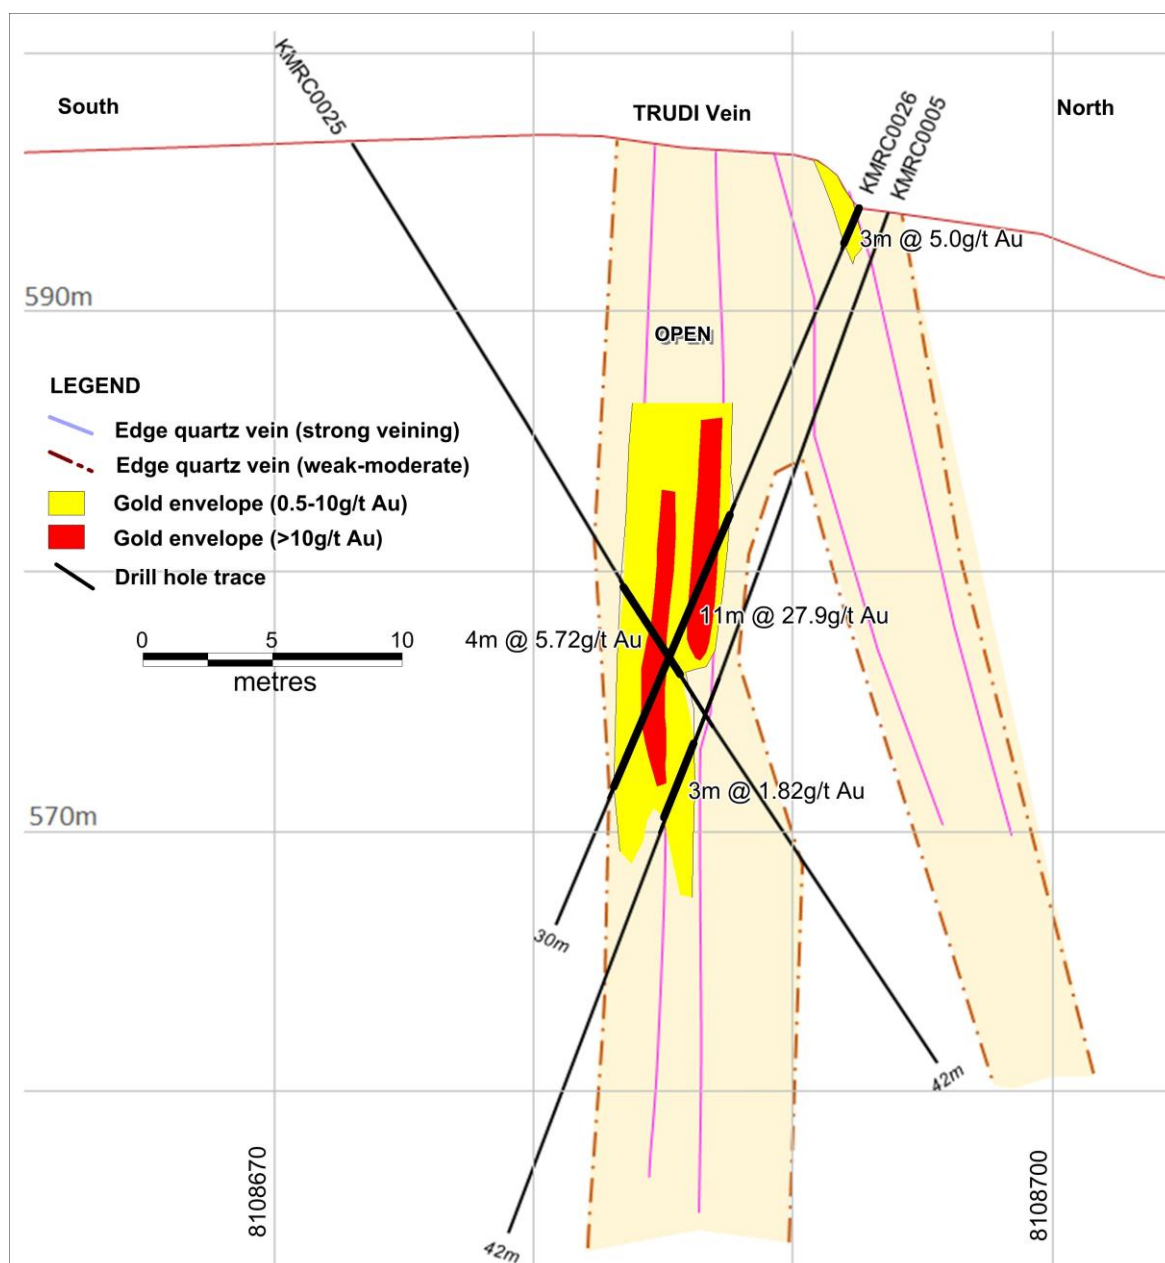

Figure 1: Cross section at 358955E on the Trudi Vein at the historical high grade site.
KRC has received all the assays from the Trudi scissor hole and two other holes at this location, which have been incorporated with the survey and geological data into the drillhole database, and used to construct a north-south section at right angles to the east-west trending Trudi Vein (Figure 1).
- Quartz veins that intersect the main east-west vein structures at very acute oblique angles (and verging to the west) have been observed throughout the main project area, including the Trudi vein scissor site. The northern subsidiary vein intersected at the top of KMRC26 is thought to be one of these structures (Figures 1 and 3). The Trudi vein also bends at this intersection which may have helped localise the high grade mineralisation in the main Trudi vein.